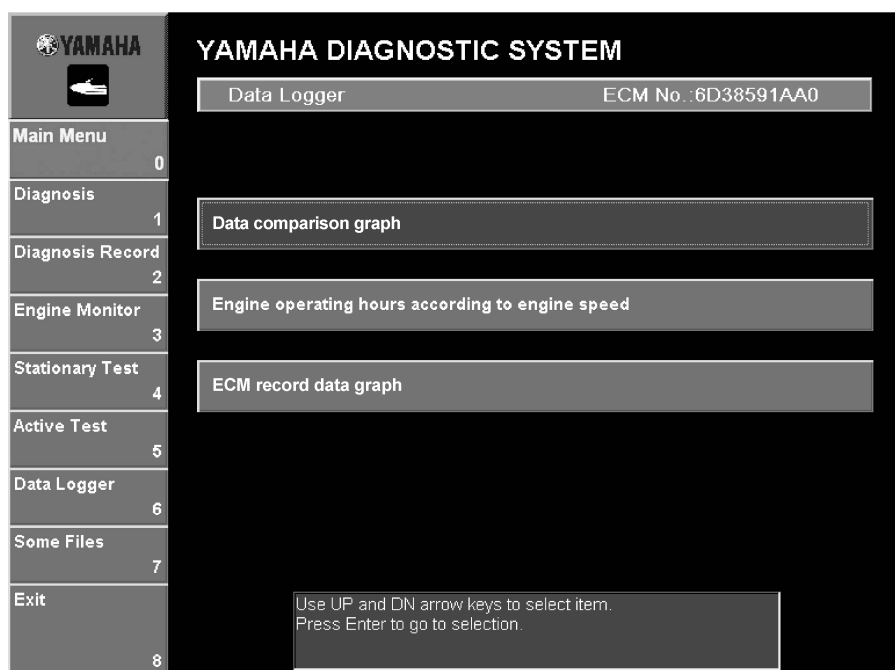

Fig. 97
1. Click the **Data comparison graph** button or press the up or down arrow key on your keyboard to select it and press the Enter key. (See fig. 97.)
1. Click the **Engine operating hours according to engine speed** button or press the up or down arrow key on your keyboard to select it and press the Enter key. (See fig. 97.)